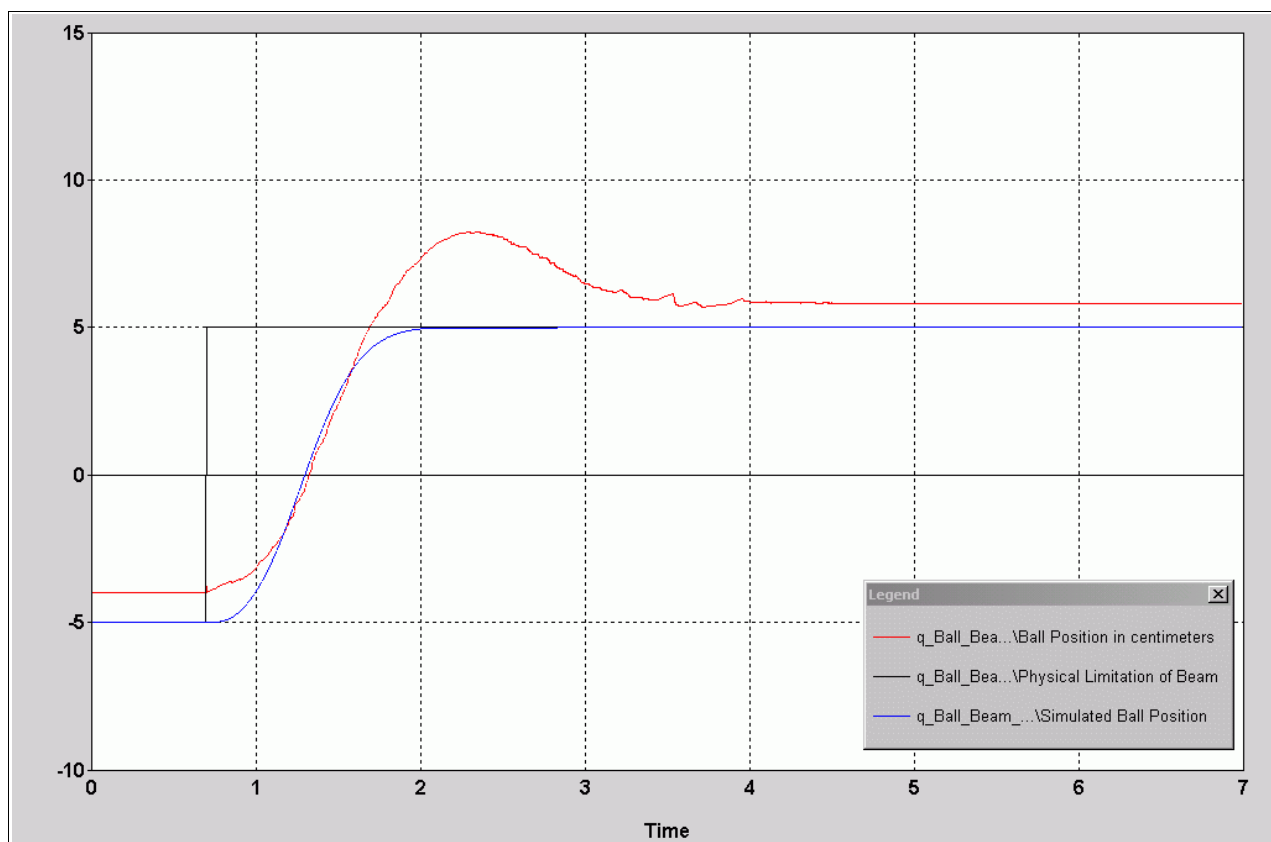

Figure 8 Step Response of the Plant
The ball and beam module should now be running and the ball should be tracking a square wave from 5 cm to -5 cm on the beam. Through the Simulink diagram you may adjust the commanded position of the ball. Through the WinCon server, you should now plot the *Ball Position in cm*, *Simulated Ball Position as well as Command in cm*. Your plot should look similar to figure 8 below.
- vi. In section **4.2**, you implemented your controller on the physical plant. Provide the response of the system as well as the simulated result. This graph should look similar to Figure 8. Comment on the performance of your controller on the actual system as opposed to the simulated model.